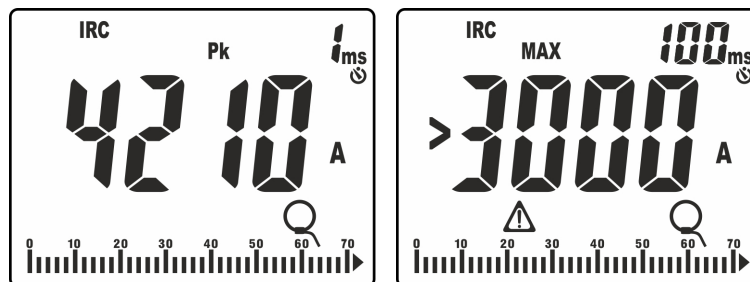

Fig. 42: Examples of display of inrush current
- Peak value “Pk” calculated in **1ms** (see Fig. 42 – left side)
11. If the measured current is higher than the set FS of the clamp, a message like the one in Fig. 42 – right side (relevant to FS = 3000A) is shown on the display.